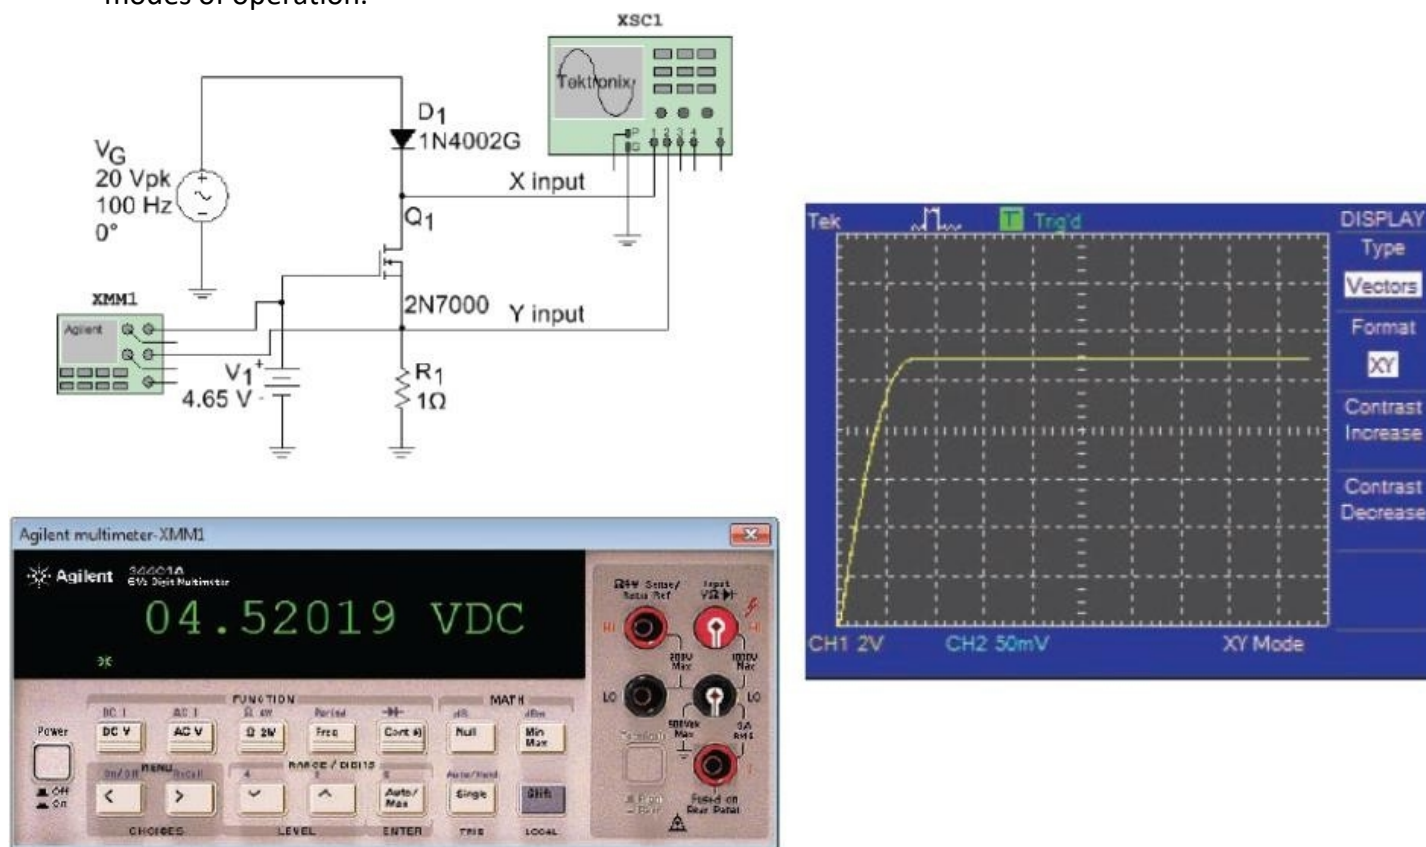

Figure-35 MOSFET testing
- The transconductance value will vary, depending on the circuit's Q point, following the relationship of $g_m = \left[\frac{2I_{DQ}}{V_{GS} - V_{th}} \right]$ and $r_{ds} = \frac{1}{\lambda I_{DQ}}$ (28)
- If a curve tracer is not available, special test circuits can be constructed. Figure-35 shows a circuit capable of testing both depletion-mode and enhancement-mode MOSFETs. By changing the voltage level and polarity of V_1 , the device can be tested in either depletion or enhancement modes of operation.
- The drain curve shown in Figure-35 shows the approximate drain current of 275 mA when, $V_{GS} = 4.52$ V. The y-axis is set to display 50 mA/div.